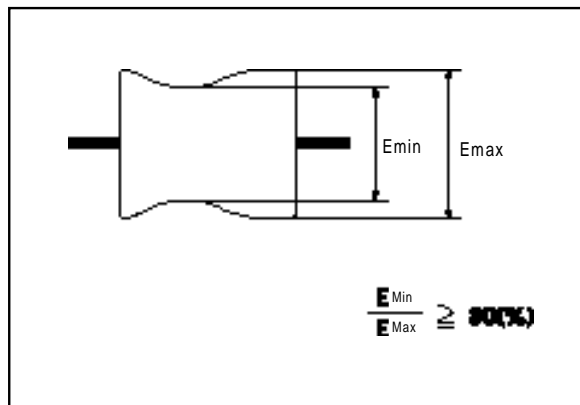

Fig 2-12
2. Set to REV mode and observe the outlet waveform of PB RF signal. (Fig 2-12)
2. Confirm that the minimum amplitude value(E_{min}) is 80% of the maximum value(E_{max}) or larger. (Fig. 2-12)